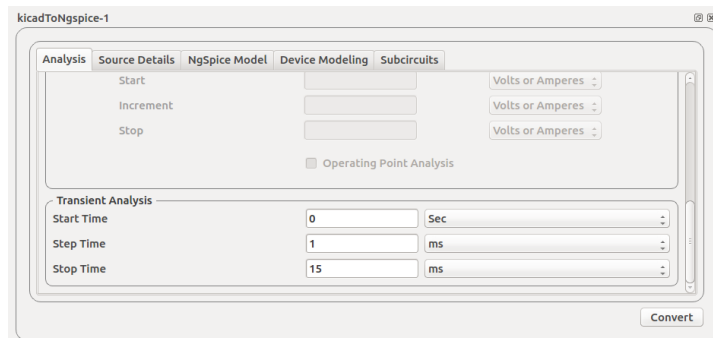

Figure 12.2: Analysis parameters: Low pass filter
2. Create the KiCad netlist. Now the analysis and analysis parameters are given as shown in Fig. 12.2.